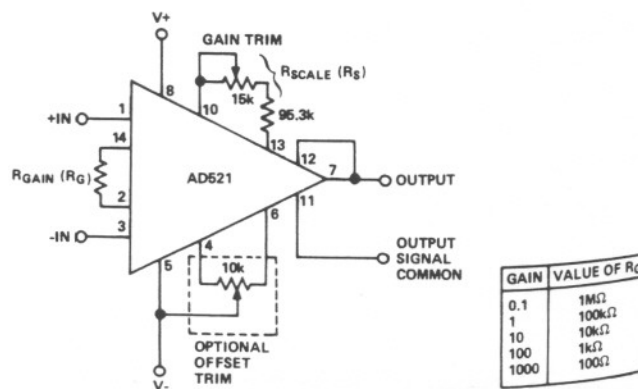

Figure 2. Operating Connections for AD521
1. Gains below 1 are realized by adjusting the gain setting resistors as shown in Figure 2 (the resistor, R_S between pins 10 and 13 should remain $100k\Omega \pm 15\%$, see application note 3). For best results, the input voltage should be restricted to $\pm 10V$ even though the gain may be less than 1. See Figure 6 for gains above 1000.
3. The resistors between pins 10 and 13, (R_{SCALE}) must equal $100k\Omega \pm 15\%$ (Figure 2). If R_{SCALE} is too low (below $85k\Omega$) the output swing of the AD521 is reduced. At values below $80k\Omega$ and above $120k\Omega$ the stability of the AD521 may be impaired.
The offset trim adjustment (pins 4 and 6, Figure 2) is associated primarily with the output offset. At any gain it can be used to introduce an output offset equal and opposite to the input offset voltage multiplied by the gain. As a result, the total output offset can be reduced to zero.